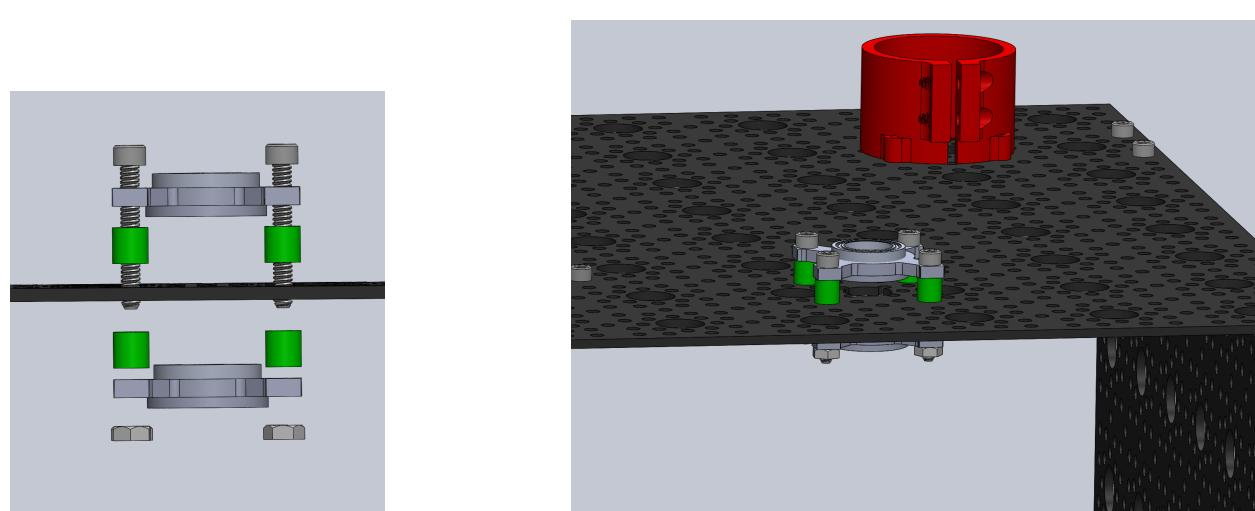

Figure 5: Mounting the pillow blocks
1. **Mount the pillow bearing blocks:** Using spacers **T1**, screws **B6**, and hex nut **B11**, mount the pillow blocks **S11** to the top of the body over the hole in the aluminum plate that you drilled earlier as shown in Figure 5.